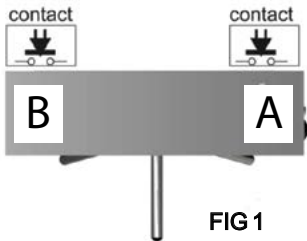

FIG 1
- FIG 1.** Bi-directional controlled passage: A card reader or button is used for each direction